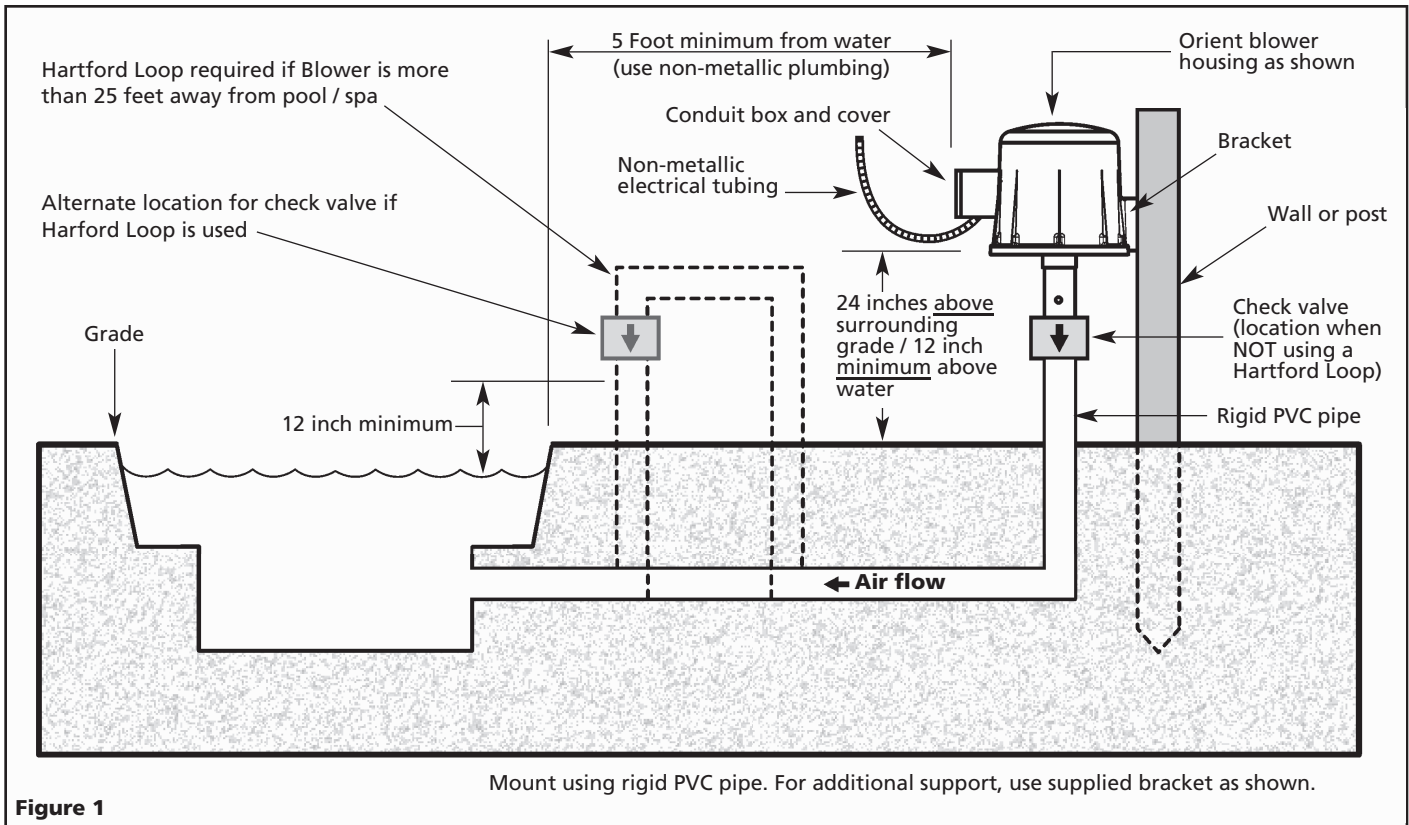

Figure 1
See Figure 1 for recommended installation diagram.
4. Mount blower in a vertical position using vertical rigid PVC pipe as shown in Figure 1. For additional support use supplied bracket as shown in Figure 1. For warm climates, try to locate the blower in a shaded location.
⚠ WARNING If the blower is to be installed more than 25 ft from the spa, it will be necessary to install a loop that is 1 foot above the water line and as close to the spa as possible (See Figure 1).